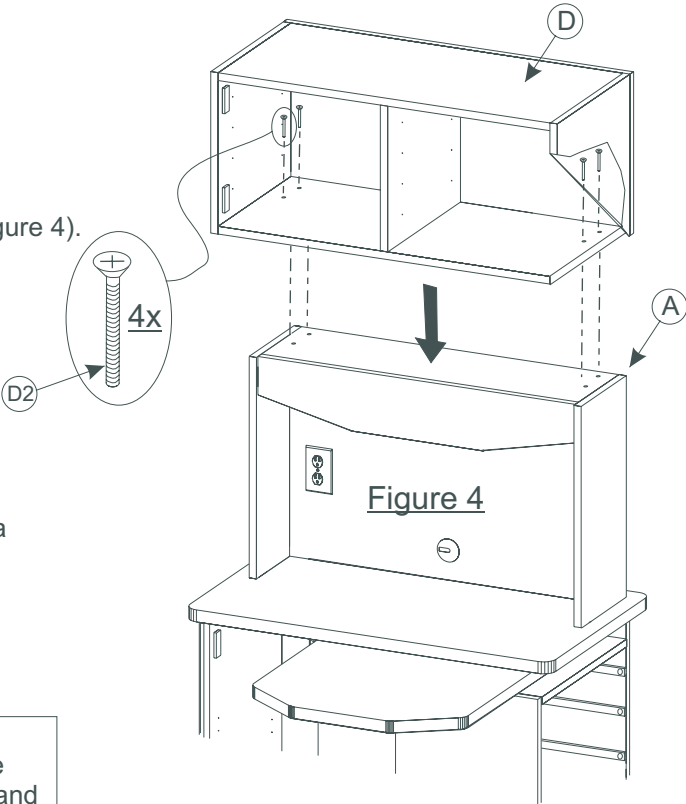

Figure 4
Secure with (4) 1/4-20 x 1-3/4" Flat Head Screws (D2) (see Figure 4).